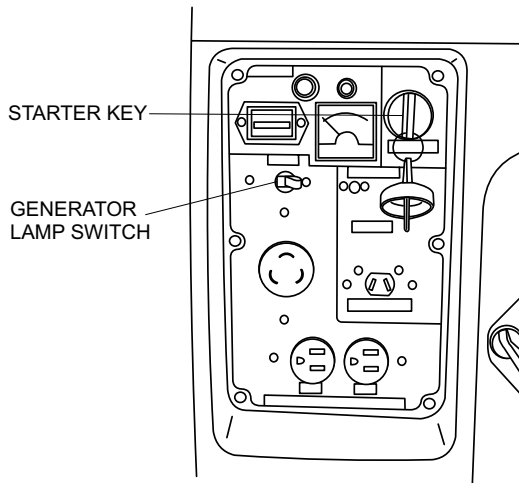

Figure 13. Generator Lamp Switch
1. Make sure the generator lamp switch (Figure 13) is in the OFF position.
5. Place the generator lamp switch (Figure 13) to the ON position.